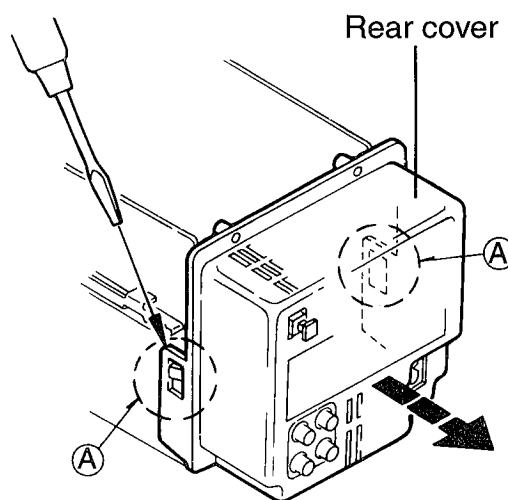

Fig. 4
3. Disengage the two engagements A on the right and left sides of the rear cover and chassis. (See Fig. 4)